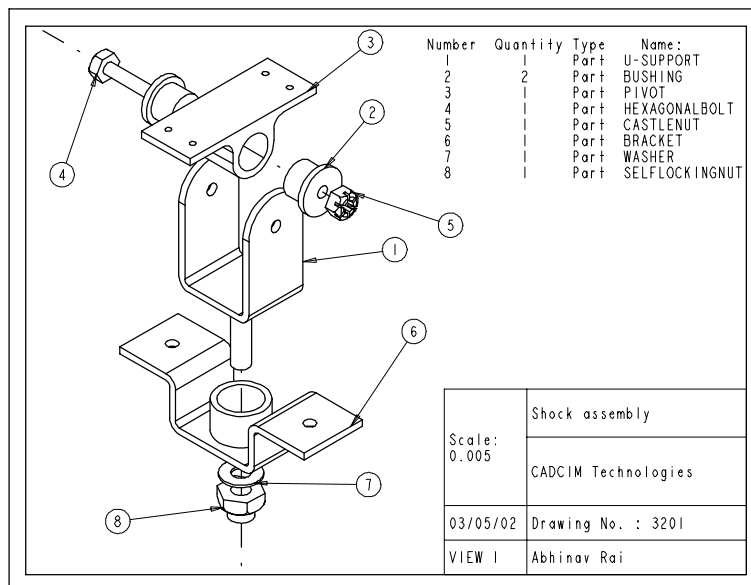

Figure 12-18 The drawing view of the assembly showing the BOM and title block
Similarly, enter the text in all the remaining cells one by one as shown in Figure 12-18.
8. Select an edge of the Pivot close to the back face and then press the middle mouse button on the screen where the note will be placed, see Figure 12-18. The **Message Input Window** is displayed. Enter **3** and press ENTER twice.
10. Select an edge of the Bushing and press the middle mouse button on the screen where the note will be placed, see Figure 12-18. The **Message Input Window** is displayed. Enter **2** and press ENTER twice.
12. Select an edge of the U-Support and press the middle mouse button on the screen where the note will be placed, see Figure 12-18. The **Message Input Window** is displayed. Enter **1** and press ENTER twice.
Similarly, place the remaining balloons. The sheet after placing the BOM and adding the balloons should look similar to the one shown in Figure 12-18.